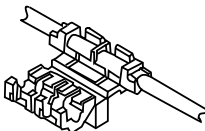

Figure 8
3. Insert the free end of W-4 into the Fuse Tap making sure to seat the wire through the tap so that it presses against the center stop in the Tap. (Fig. 8).